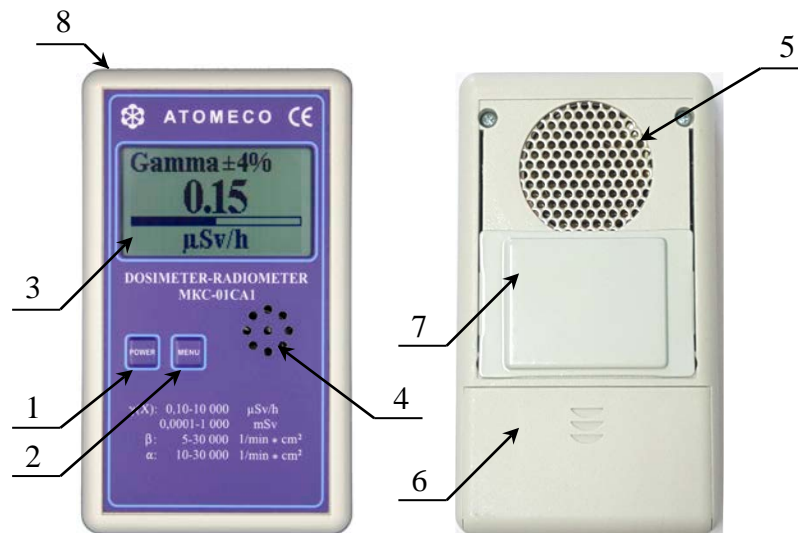

Fig.1. Overall view of the instrument MKC-01CA1
1.4.1 The overall view of the instrument is given of the Fig.1.